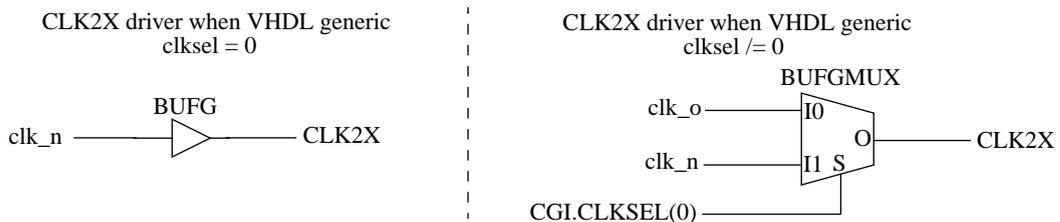
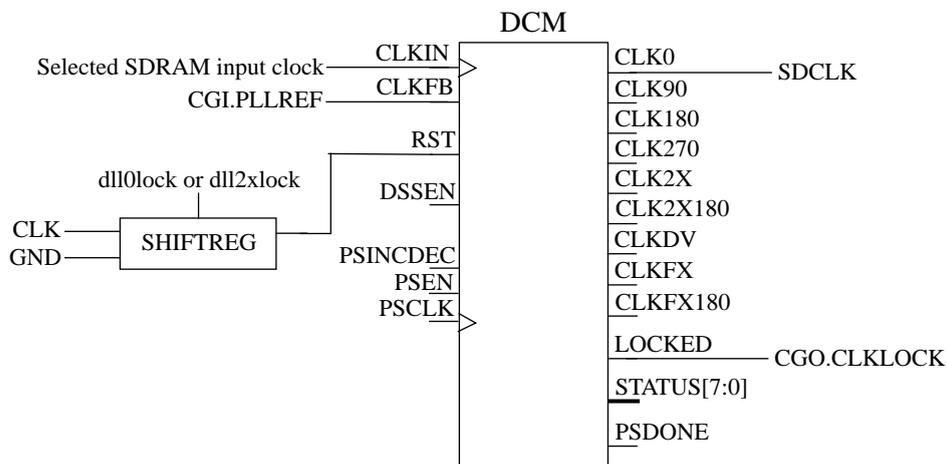

Figure 48. Spartan 3/e selection of CLK2X clock when VHDL generic *clk2xen* is non-zero
Figure 51. Spartan 3/e generation of SDRAM clock
shift register connected to the CLK2X DCM’s RST input are set to ‘1’. When the dll0lock signal is asserted it will take four main clock cycles until the RST input is deasserted. Depending on the value of the *clksel* VHDL generic the core’s CLK2X output is either driven by a BUFG or a BUFGMUX. Figure 48 shows the two alternatives and how the CGI.CLKSEL(0) input is used to selected between the CLK0 and CLK2X output of the CLK2X DCM.
If the SDRAM clock is enabled, via the *sdramen* VHDL generic, and the clock generator is configured to use clock feedback the DCM shown in figure 51 is instantiated. This DCM has the same attributes as the CLK2X DCM. The input to the SDRAM DCM input clock is determined via the *clk2xen* VHDL generic. If the VHDL generic is set to 0 the input is the main CLK, if the generic is set to 1 the input is the *clk\_p* out of the CLK2X DCM shown in figure 48. If the *clk2xen* VHDL generic is set to 2 the clock input to the SDRAM DCM depends on the *clkssel* VHDL generic. The input in this last case is the CLK2X output shown in figure 50.
If the SDRAM clock is disabled (*sdramen* VHDL generic set to 0) or the core has been configured not to use clock feedback (*noclockfb* VHDL generic set to 1) the driver of the core's SDCLK output is determined by the value of the *clk2xen* VHDL generic. If the *clk2xen* VHDL generic is set to 2, the SDRAM clock output is the same as the CLK2X output shown in figure 48, in other words it also depends on the *clkssel* VHDL generic. If the *clk2xen* VHDL generic has any other value the SDCLK output is the same as the core's CLK output.